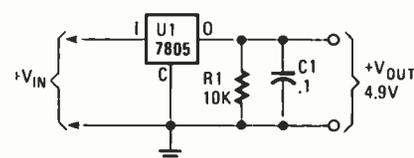

Fig. 8—This circuit, built around the 7805 5-volt regulator, can power low-current (1 amp or less) 5-volt circuits, such as TTL or CMOS based projects.
Fig. 8—This circuit provides a combination of pulse and DC power as shown graphically in Fig. 5. The main-pulse output is used to provide a full-voltage pulse while the average-pulse output is used to provide the DC component.
4. The circuit shown in Fig. 8 provides a combination of pulse and DC power (See Fig. 5). The main-pulse output is used to provide a full-voltage pulse while the average-pulse output is used to provide the DC component. The two signal diodes in this circuit cause the output to be the higher of the two signals, so the main-pulse output always provides the full "on" part of the pulse while the average output provides the low (or "off") part of the signal. This signal may reduce the heating of some motors.
what makes this his favorite, is that it is also his first effort at independent circuit design. (See Fig. 8.) He's using a 7805 voltage regulator and Dave admits to one flaw, in that the problem is that 9-volt transistor radio batteries usually don't last very long. However, this unit allows one to transport a TTL circuit away from the workbench and it also can serve as a temporary 5-volt power supply until you get around to building something a little more suitable.